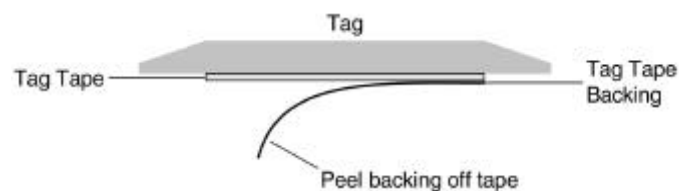

Figure 3-5 Exterior Tag with Double-Sided Tape
3. Remove the backing from the double-sided tape on the back of the tag, as shown in Figure 3-5.